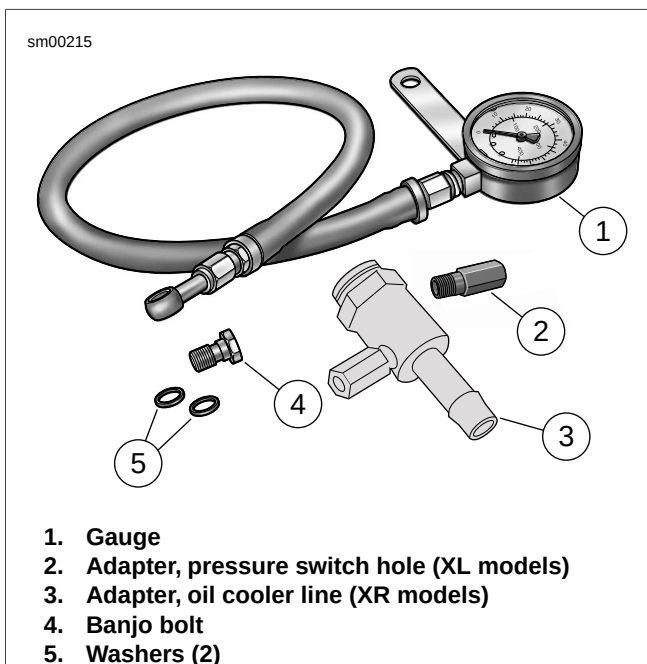

Figure 3-3. Oil Pressure Test Gauge Set
4. See Figure 3-3. Install OIL PRESSURE GAUGE ADAPTER (Part No. HD-96925-58) (2) in oil pressure indicator lamp switch mounting hole. Tighten adapter snugly. DO NOT OVERTIGHTEN.